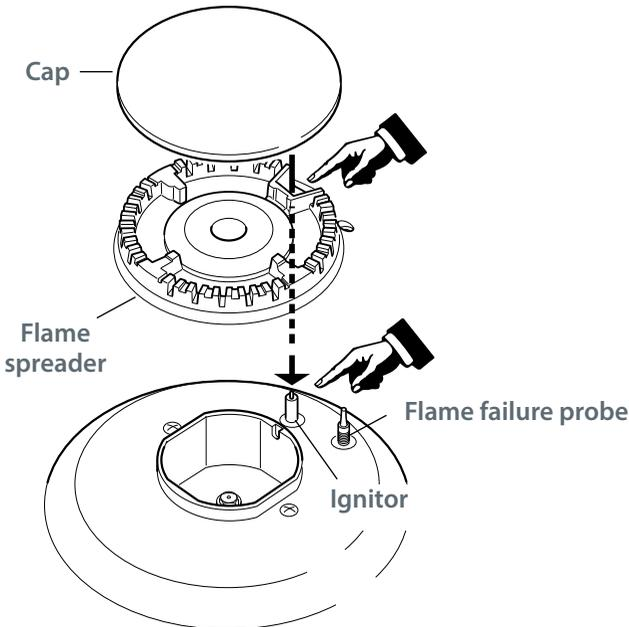

Fig. 19a Correct line-up of auxiliary and semi-rapid burner parts
- Check that the probe of the flame failure safety device (Figs. 19a and 20) next to each burner is always clean to ensure correct operation of the safety valves.